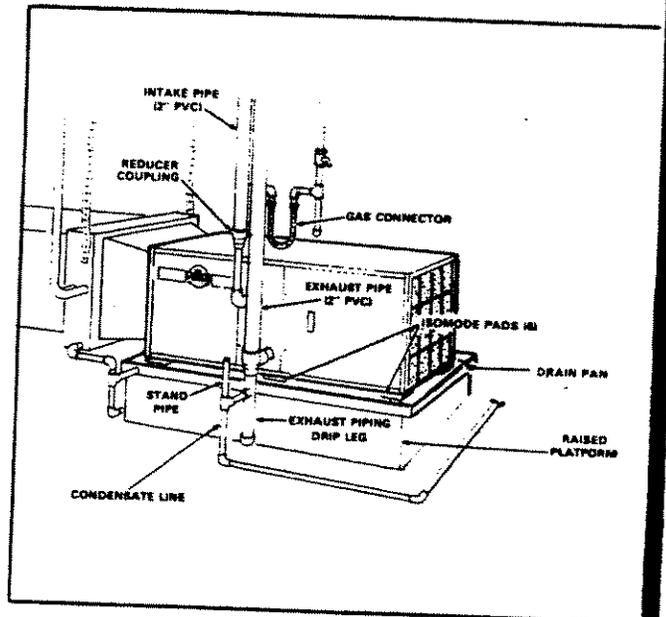

FIGURE 13
- 3 - Set unit in drain pan, using six Isomode pads (provided) as shown in figure 13. Unit must be level to ensure proper coil drainage.
- 1 - Cement intake piping to intake inlet using elbow assembly, PVC pipe and reducer coupling provided (See figures 13 and 14 for typical applications).